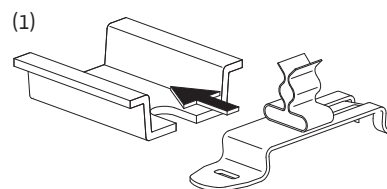

Fig. 17:
**Connecting cable shields to the shield clamps (SC...FC ... BM), see Fig. 17 - 20.**